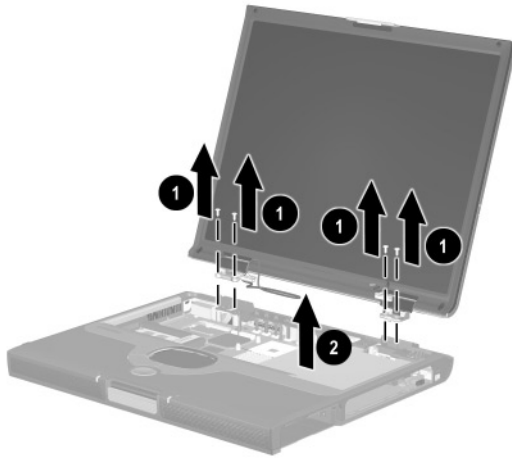

Figure 5-24. Removing the Display
9. Remove the four TM2.5 × 9.0 screws ❶ that secure the display to the base enclosure (Figure 5-24).
10. Remove the display from the base enclosure ❷.